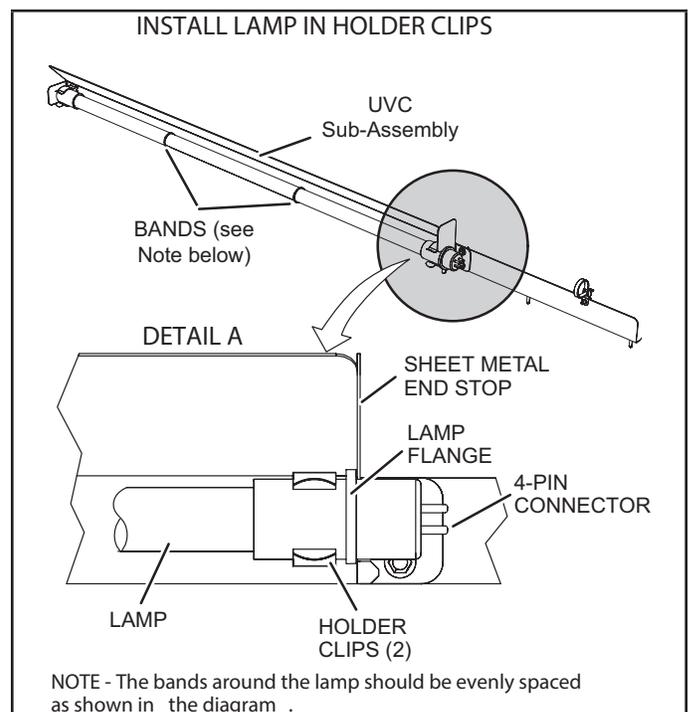

FIGURE 37
- 5 - Remove the (2) mounting screws of the UVC assembly. Carefully slide the complete UVC assembly out through the blower access door.
- 7 - Wear cotton gloves or use a cotton cloth when handling the new lamp. Place the new lamp in the holder clips of the UVC assembly. Verify that the lamp flange at the connector end is sandwiched between the lamp holder clip and the sheet-metal end stop (see FIGURE 37).